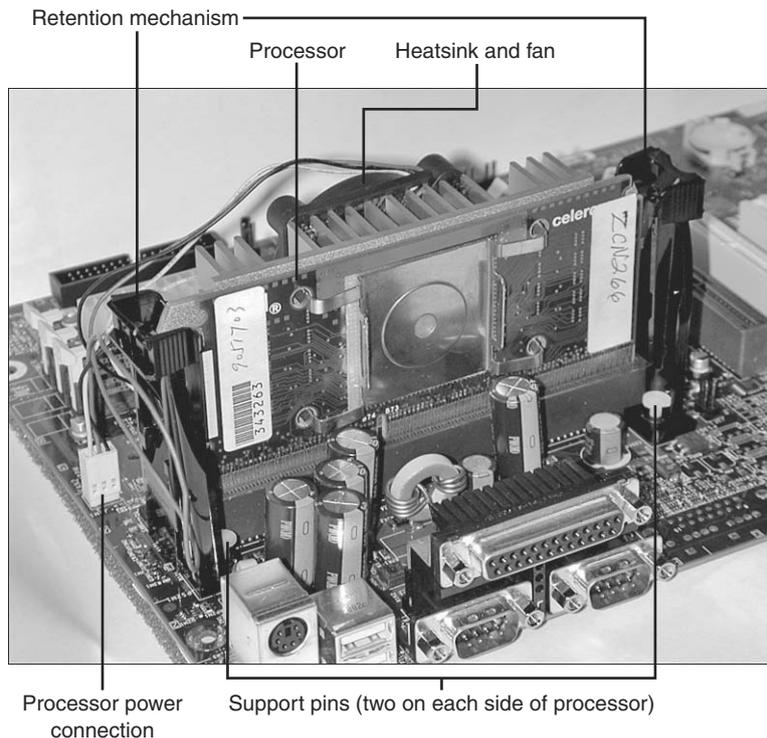

Figure 3-29 A Slot 1-based Celeron CPU after installation. The heat sink and fan are attached to the rear of the CPU.
- Step 4.** Insert the CPU into the retention mechanism; push down until the retaining clips lock the CPU into place. Figure 3-29 shows the CPU in place.